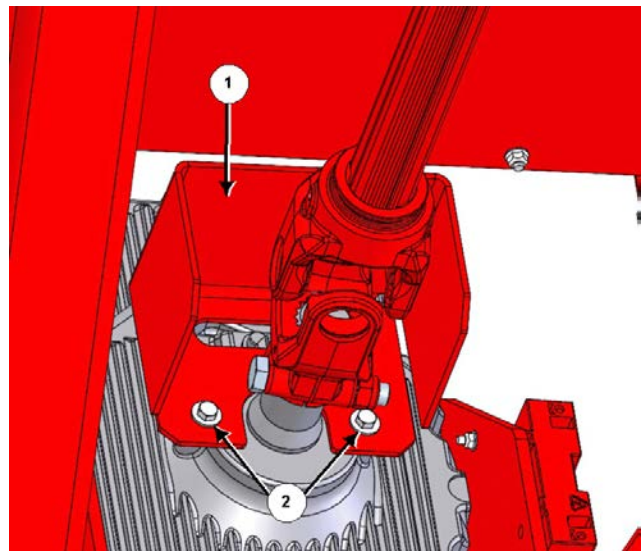

Figure 9: Fasten the driveline shield to the gearbox
6. Fasten the driveline shield (1) to the 2-speed power shift gearbox, see *Figure 9*.
- b. Place a $\frac{5}{16}$ " flat washer over a M8 x 20 grade 8.8 hex bolt (2), and place through both holes. Torque the bolts to 18 ft-lbs (24 Nm).